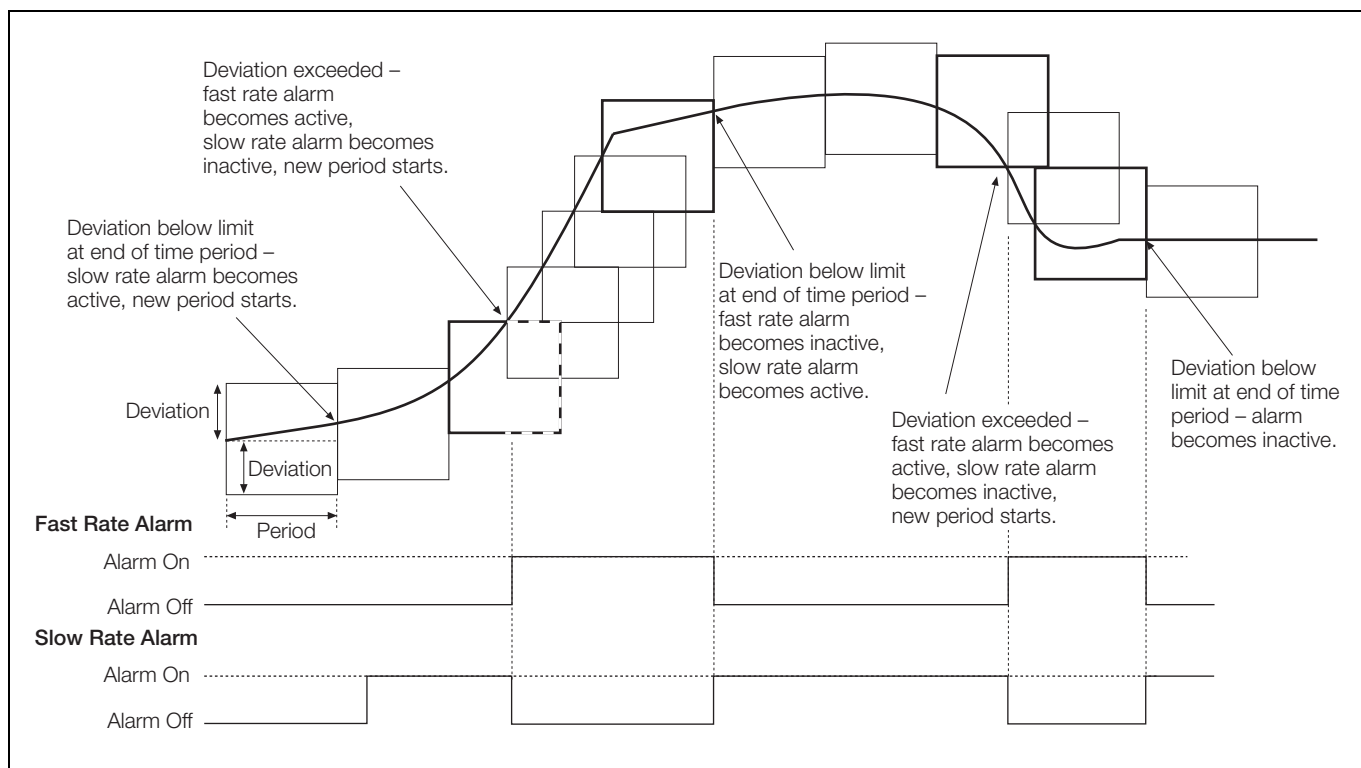

Fig. 4.15 Fast-/Slow-Rate Alarms
- Fast/Slow rate – see Fig. 4.15, page 79